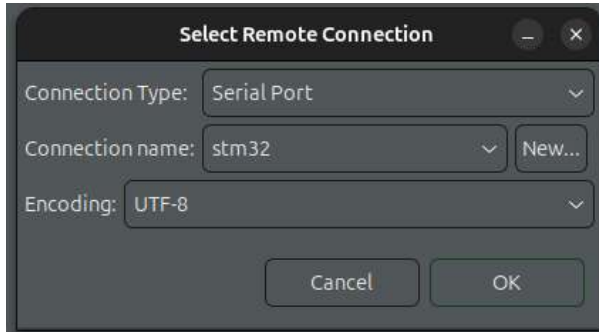

Figure 2: URAT input
- Select connection name as Serial Port. (Figure 2).